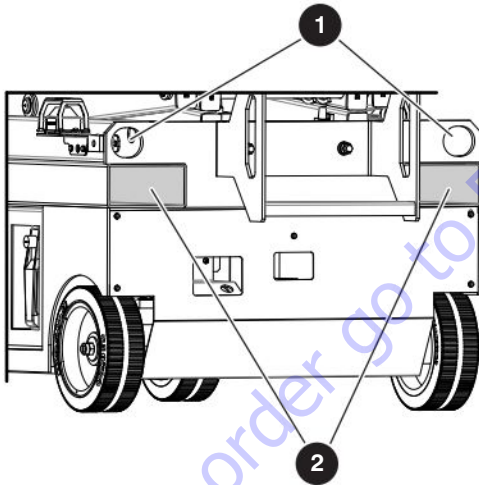
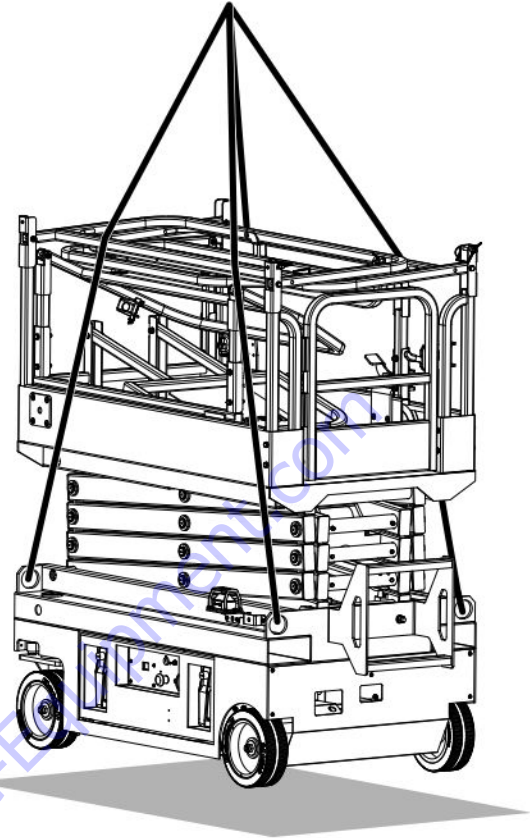
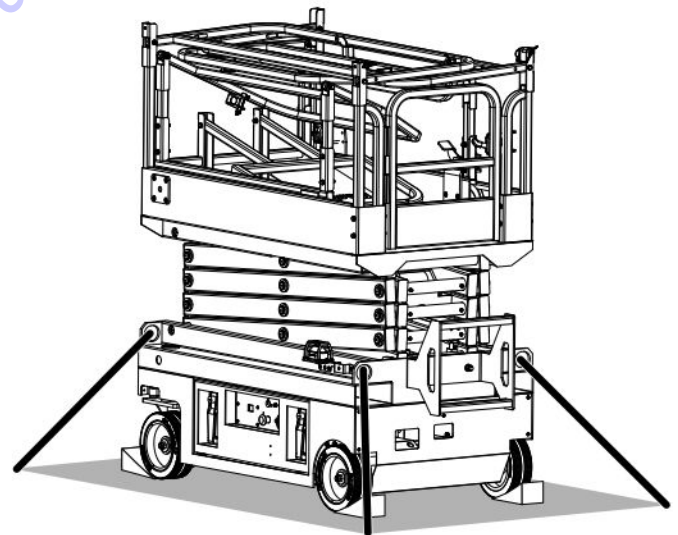

Figure 01 Lift and tie-down points and forklift pockets
Figure 02 Appropriate method to hoist
Figure 04 MEWP Tie-down
- Attach the rigging to all **four lift points 1** to hoist. Lift with the forks in the designated **forklift pockets 2**. Refer to Figure 01 and Figure 02.
When you transport the MEWP, it must be attached to a truck or trailer deck. Use the available tie-down points **1** to attach the MEWP. Refer to Figure 01. If you do not obey, there is a risk of death or serious injury.
- Tie-down the MEWP to the transport vehicle using the four tie-down points **1**. Refer to Figure 01 and Figure 04.